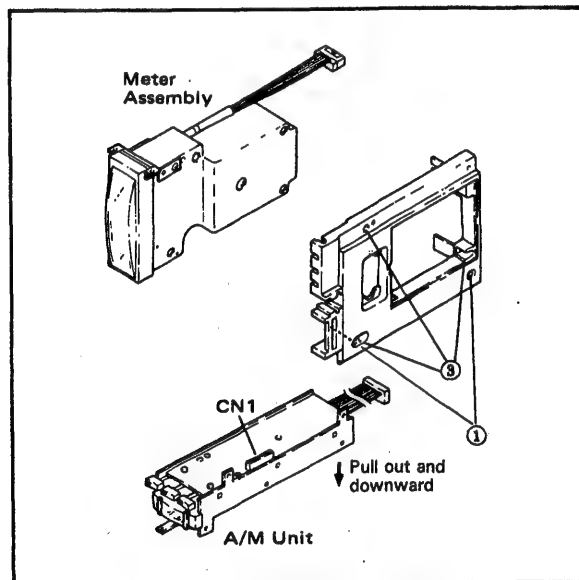
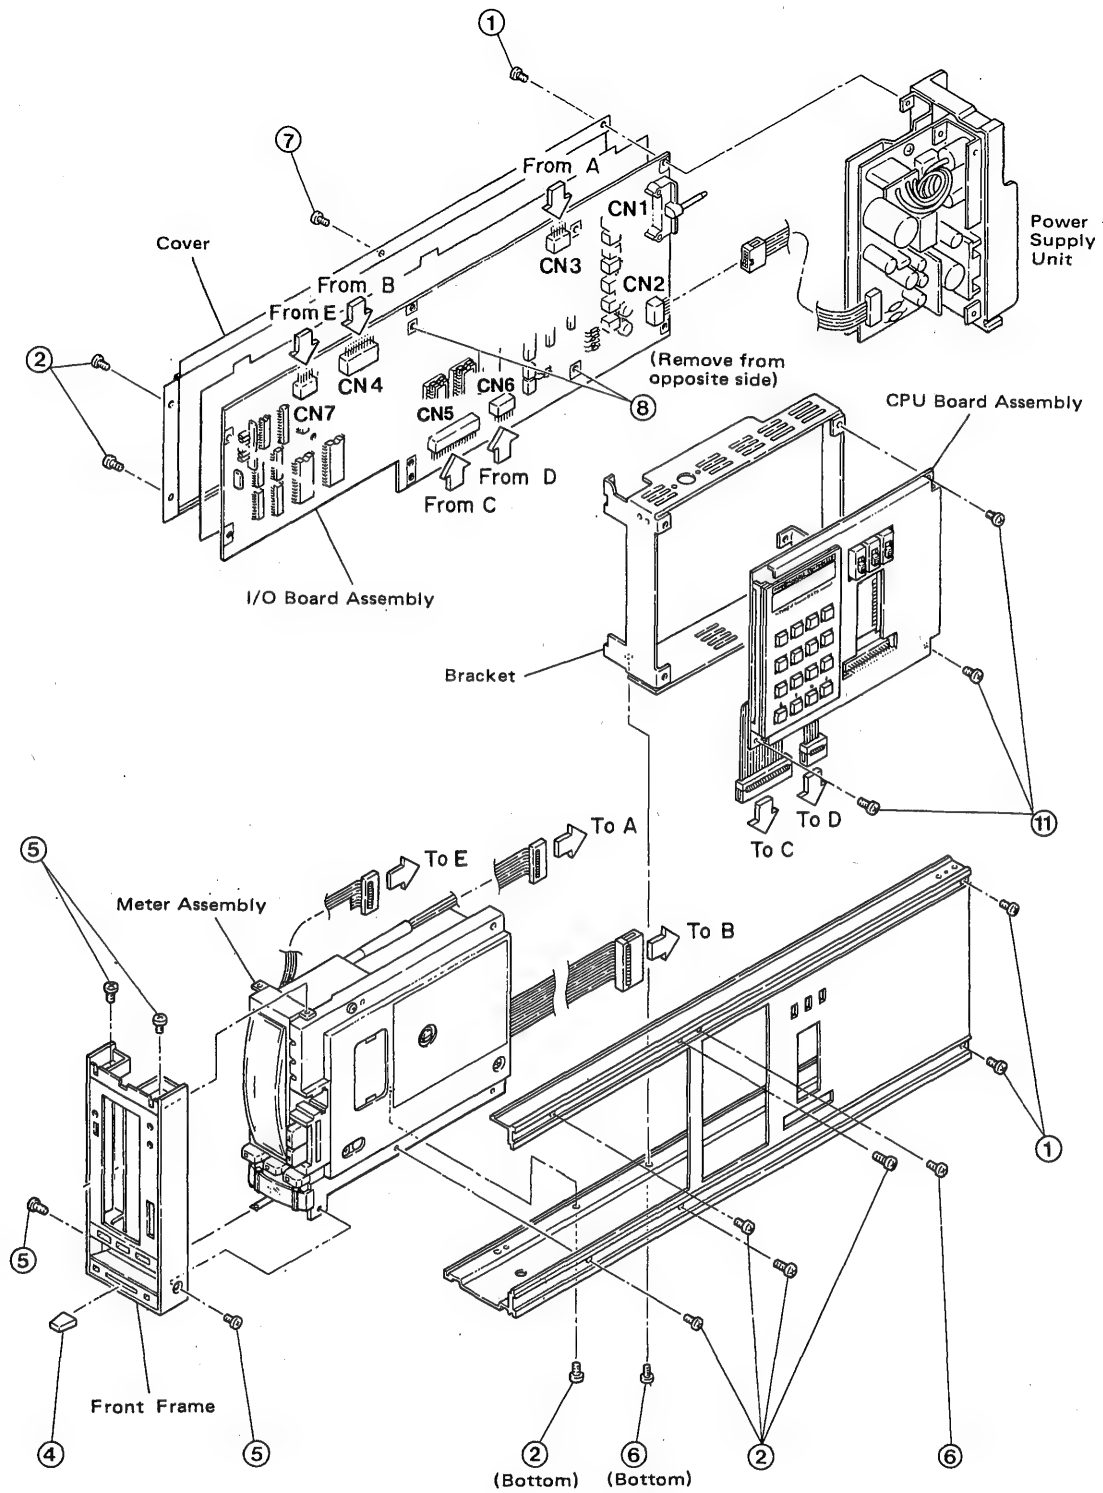

Figure 7-2-2. Disassembling Display Unit.
Figure 7-2-3. Disassembling Main Unit.
- (1) Remove seven screws ② in Figure 7-2-3.
- (2) Remove connectors 3 (CN3, CN4 and CN7).
- (3) Carefully pull the meter assembly out toward the front.
- (1) Pull off knob ④ in Figure 7-2-3.
- (2) Remove four screws ⑤ to separate the front frame.
- (3) Pull the A/M unit out and downward after removing two screws ① in Figure 7-2-2.
- (4) To separate the meter assembly, remove three screws ③ from the molded section. (The meter assembly in the fluorescent bar graph version can be separated in the same manner.)
- (1) Remove four screws ① in Figure 7-2-3.
- (2) To separate the power supply unit, pull it out toward the rear and remove connector CN2.
- (1) Remove the meter assembly and the power supply unit as instructed in Sections 7-2-1 and 7-2-3.
- (2) Separate the I/O board assembly from the chassis by removing two screws ⑥ in Figure 7-2-3.
- (3) Remove two screws ⑦ and open the cover to expose screw ⑧ (on opposite side in the figure).
- (4) Remove two screws ⑧ from the opposite side to open the tuning panel (CPU board assembly).
- (5) Pull the connectors CN5 and CN6 out and downward to separate the tuning panel (CPU board assembly).
- (6) To release the tuning panel from the bracket, remove three screws ⑩.